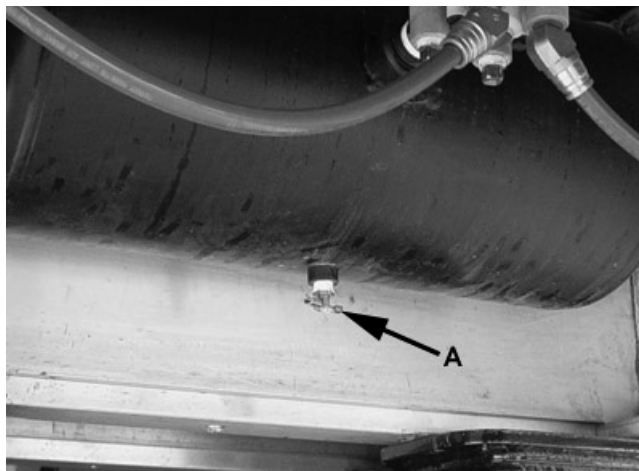

Figure 8-5 Drain Trailer Air Tanks
Drain moisture from trailer air tanks by opening petcock (A) on the bottom of each air tank. See figure 8-5. Close petcocks after draining.